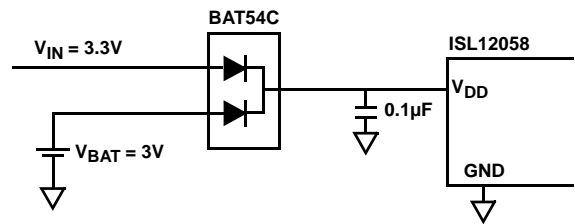

FIGURE 1. EXAMPLE CIRCUIT FOR SYSTEM REQUIRING BATTERY BACK-UP BY USING BAT54C ON  $V_{DD}$
- A system requiring battery backup can implement a slight hardware change and use a BAT54C Schottky Diode on  $V_{DD}$  to accept a regular input voltage and battery voltage. Figure 1 shows the example circuit of using the BAT54C on  $V_{DD}$ .
- A system requiring battery back-up can implement a slight hardware change and use a BAT54C Schottky Diode on VDD to accept a regular input voltage and battery voltage. Figure 1 shows the example circuit of using the BAT54C on VDD.